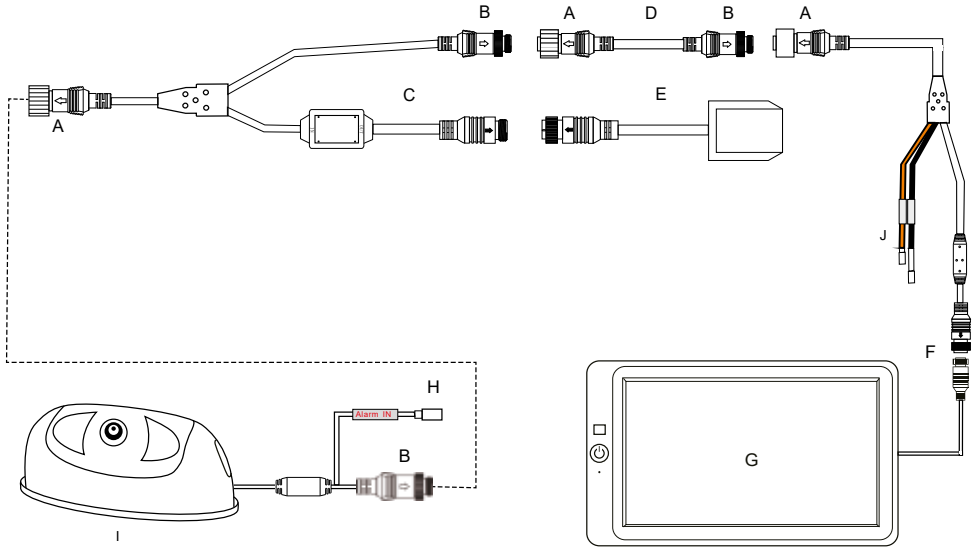

Abb. 3: Connection of the GPS antenna and the alarm input
- **Adapter 5:** GPS antenna (Fig.3)